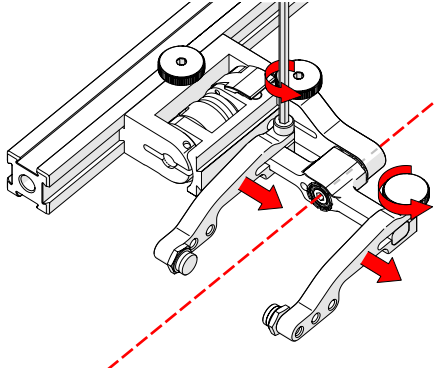

Fig. 134 - Adjust probe holder arms
5. Loosen the probe holder arm adjustment knob (Fig. 134) and remove the outer probe holder arm from yoke.
6. Adjust the inner probe holder arm as required to best centre the probe on the yoke's pivot axis (Fig. 134).
TIP: The probe holder yoke can accommodate different probe and wedge sizes of varying widths. It is best to centre the wedge with the yoke's pivot axis to reduce wedge tipping when scanning. Position the inner probe holder arm accordingly with the centre of the yoke (Fig. 134).